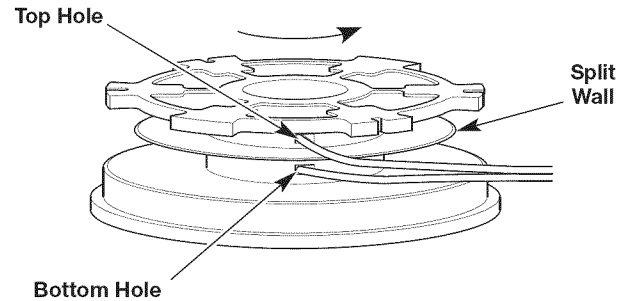

Fig. 13
2. Using one split end, insert one line into the top hole and the other line into the bottom hole in the inner reel (Fig. 13).